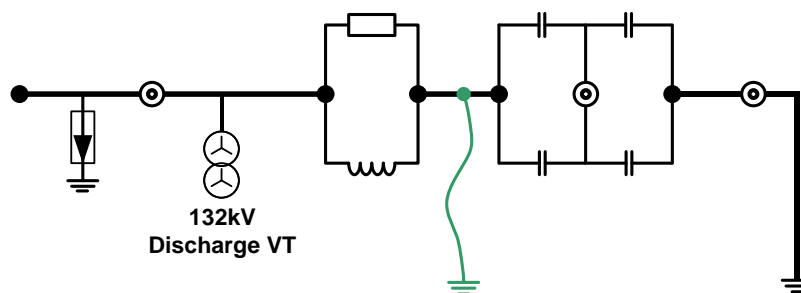

Figure 4a –Harmonic filter incorporating a capacitor bank and reactor. **Drain Earth** shown applied
- **Drain Earth** shall be applied to the connection point between any *Capacitor Bank* and any reactor (refer to figure 4a)
Referring to figure 4a, the **Drain Earth** is used to prevent a potentially **High Voltage** being generated by the 50 Hz resonant circuit formed by the capacitor and reactor whilst performing capacitor measurements.